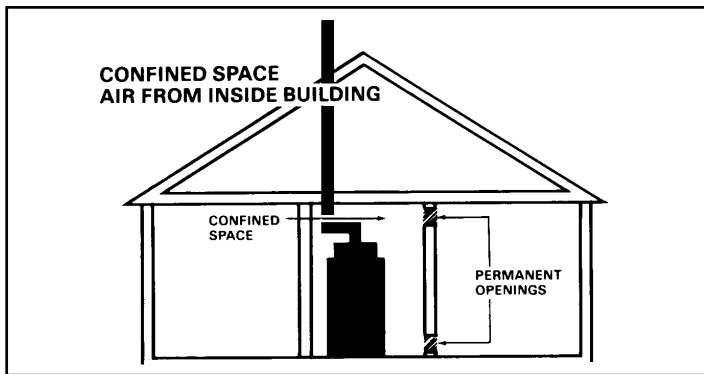

FIGURE 8
Confined spaces are installations with less than 50 cu. ft. of space per 1000 BTU/hr. input from all equipment installed. Air for combustion and ventilation requirements can be supplied from inside the building as in Figure 8 or from the outdoors, as in Figure 9.
1. All air from inside the building as in Figure 8: The confined space shall be provided with two permanent openings communicating directly with an additional room(s) of sufficient volume so that the combined volume of all spaces meets the criteria for an unconfined space. The total input of all gas utilization equipment installed in the combined space shall be considered in making this determination. Refer to Table 3, for minimum open areas required.